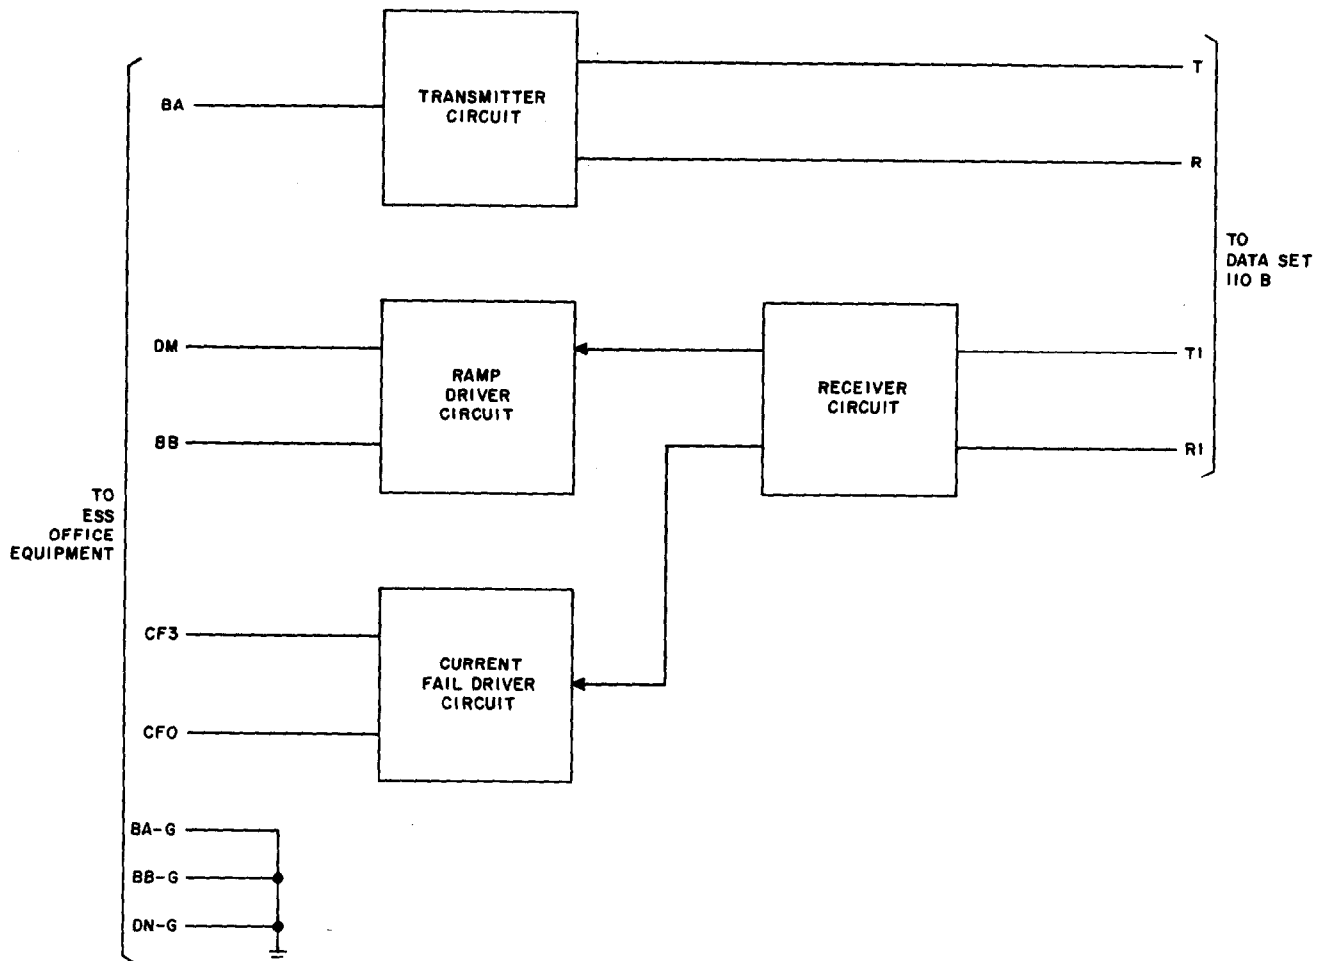

Fig. 5—Data Set 110C, Block Diagram
3.01 The Data Set 110C is essentially a 2-channel unit which transmits both to and from the Delay Line Character Assembler-Disassembler (DCAD) in the No. 1 ESS-ADF office and over the connecting pairs to the Data Set 110B. A functional block diagram of Data Set 110C is shown in Fig. 5.
3.04 When data signals are received from the Data Set 110B to the Data Set 110C via the receive loop (leads T1 and R1), the signals are passed to the DCAD via the BB lead. To pass the signals to the DCAD, the 110C (Fig. 5) consists of the following circuits: